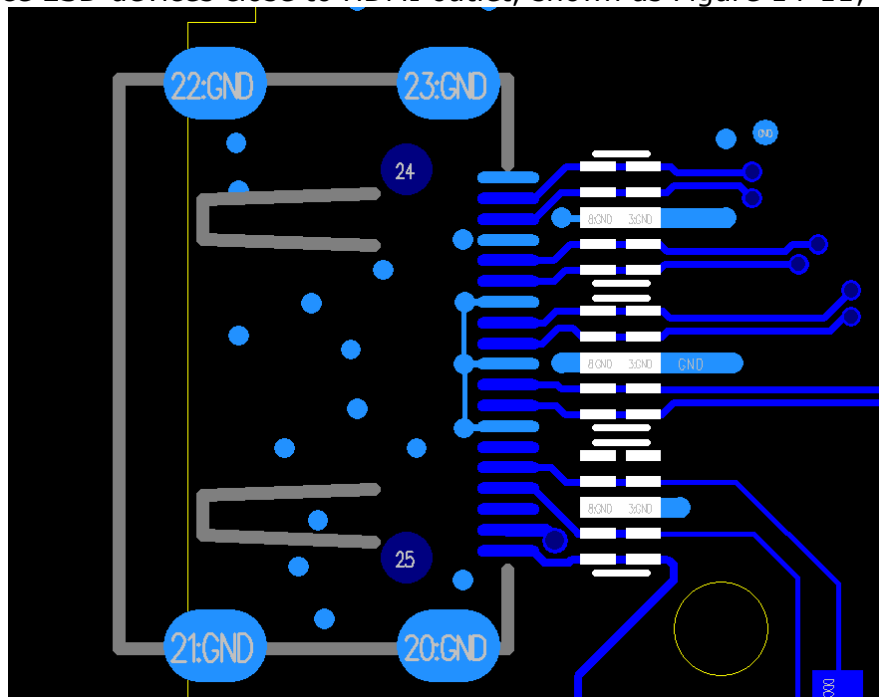

Figure 14-11
- Place ESD devices close to HDMI outlet, shown as Figure 14-11;